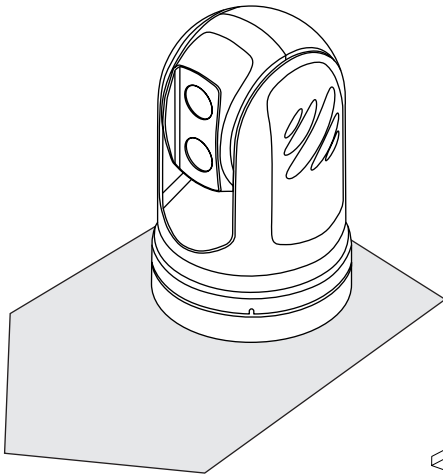

Fig. 2
1. Take note of the orientation of the Camera Turret and place the base forward-facing relative to the bow of your vessel (Fig. 2). There is an arrow mark at the base of the Camera Turret indicating the forward-facing of the turret for installation. In most cases, this arrow should point toward the general direction of the vessel's bow.